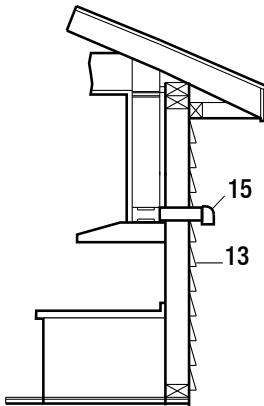
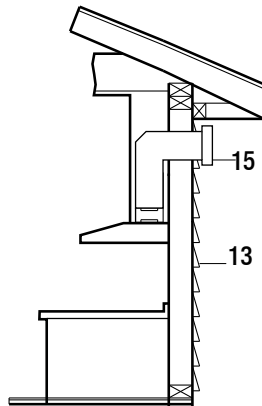
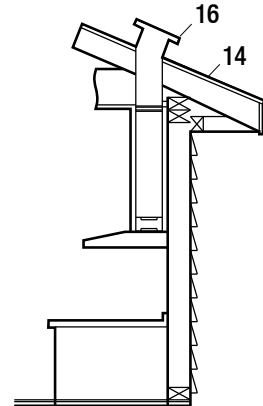

Fig.5
Fig.6
Fig.7
- Your venting system must vent to the outdoors either horizontally through the back wall (13) or vertically through the roof (14) (refer to Fig. 5/ Fig. 6/ Fig. 7).